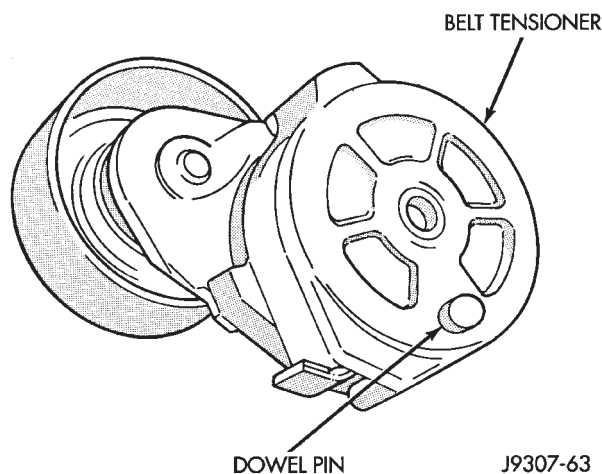
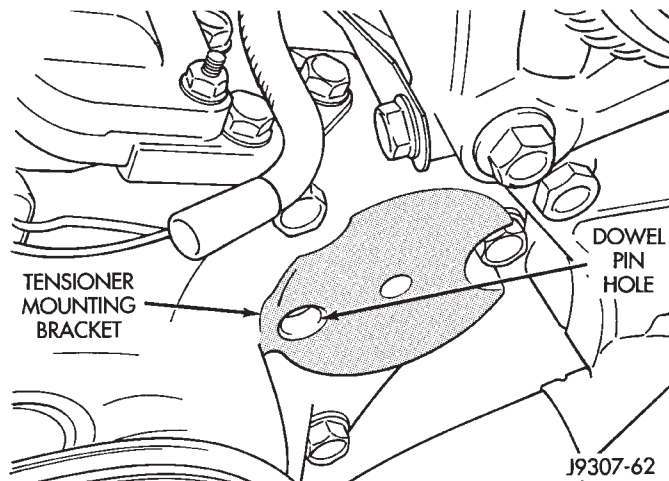

Fig. 96 Tensioner Dowel Pin—5.9L HDC-Gas and 8.0L V-10 Engines
Fig. 97 Tensioner Dowel Hole—5.9L HDC-Gas and 8.0L V-10 Engines
(1) Install pulley and pulley bolt to tensioner (observe the previous CAUTION). Tighten bolt to 88 N·m (65 ft. lbs.) torque.
(2) Install tensioner assembly to mounting bracket. A dowel pin is located on back of tensioner (Fig. 96). Align this to dowel hole (Fig. 97) in tensioner mounting bracket. Tighten bolt to 41 N·m (30 ft. lbs.) torque.